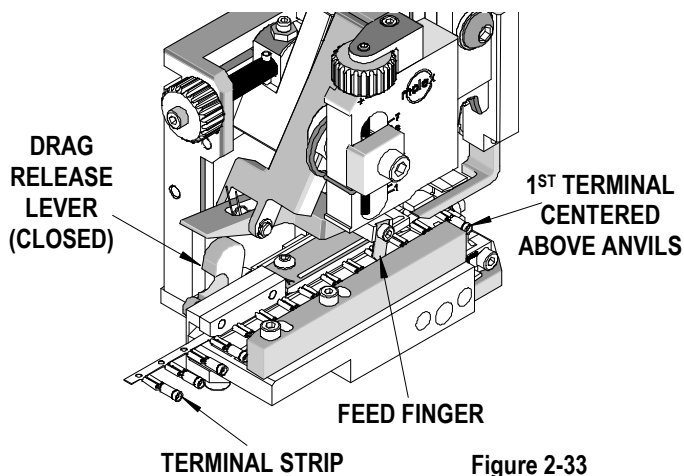

Figure 2-33
3. Raise the terminal drag by pivoting the drag release lever away from the applicator. This will allow the terminals to slide freely through the applicator track. See Figure 2-33.